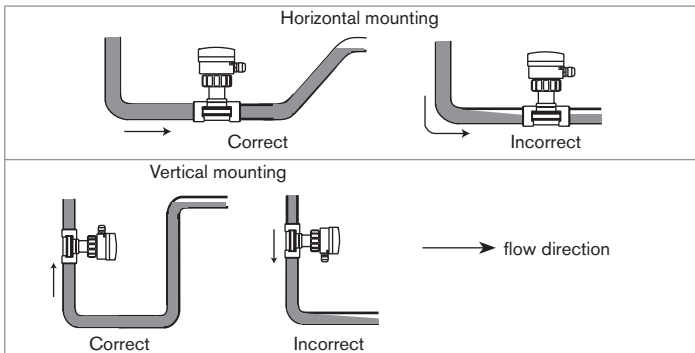

Fig. 6 : Filling of the pipe
- Ensure that the pipe is always filled in the section around the device (see Fig. 6).
- When mounting vertically ensure that the flow direction is in an upward direction (see Fig. 6).